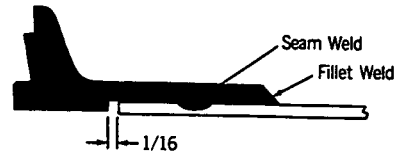

Fig. 1
8. A 1/16" gap should be left between end of tubing and socket on machined flanges to allow for thermal expansion and contraction as shown in Fig. 1.